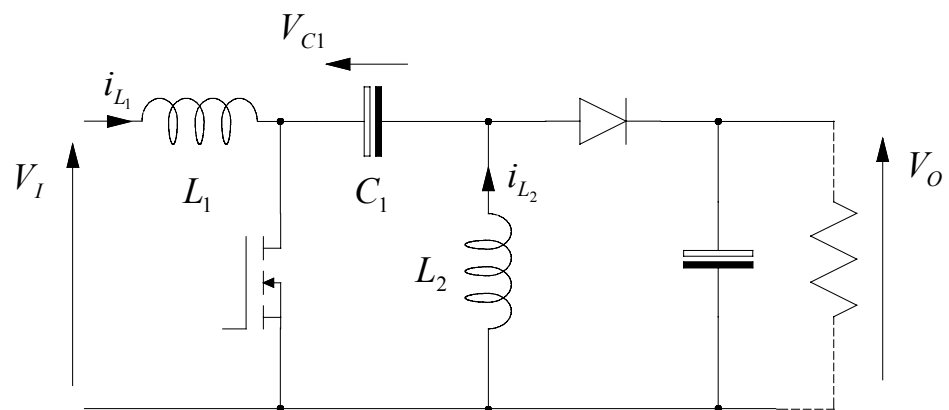

Figure 3 A SEPIC switch-mode power supply
2. (a) Figure 3 shows a variation on the Ćuk switch-mode power supply known as a SEPIC circuit.
2) (a) Figure 3 shows a variation on the Ćuk switch-mode power supply known as a SEPIC circuit.